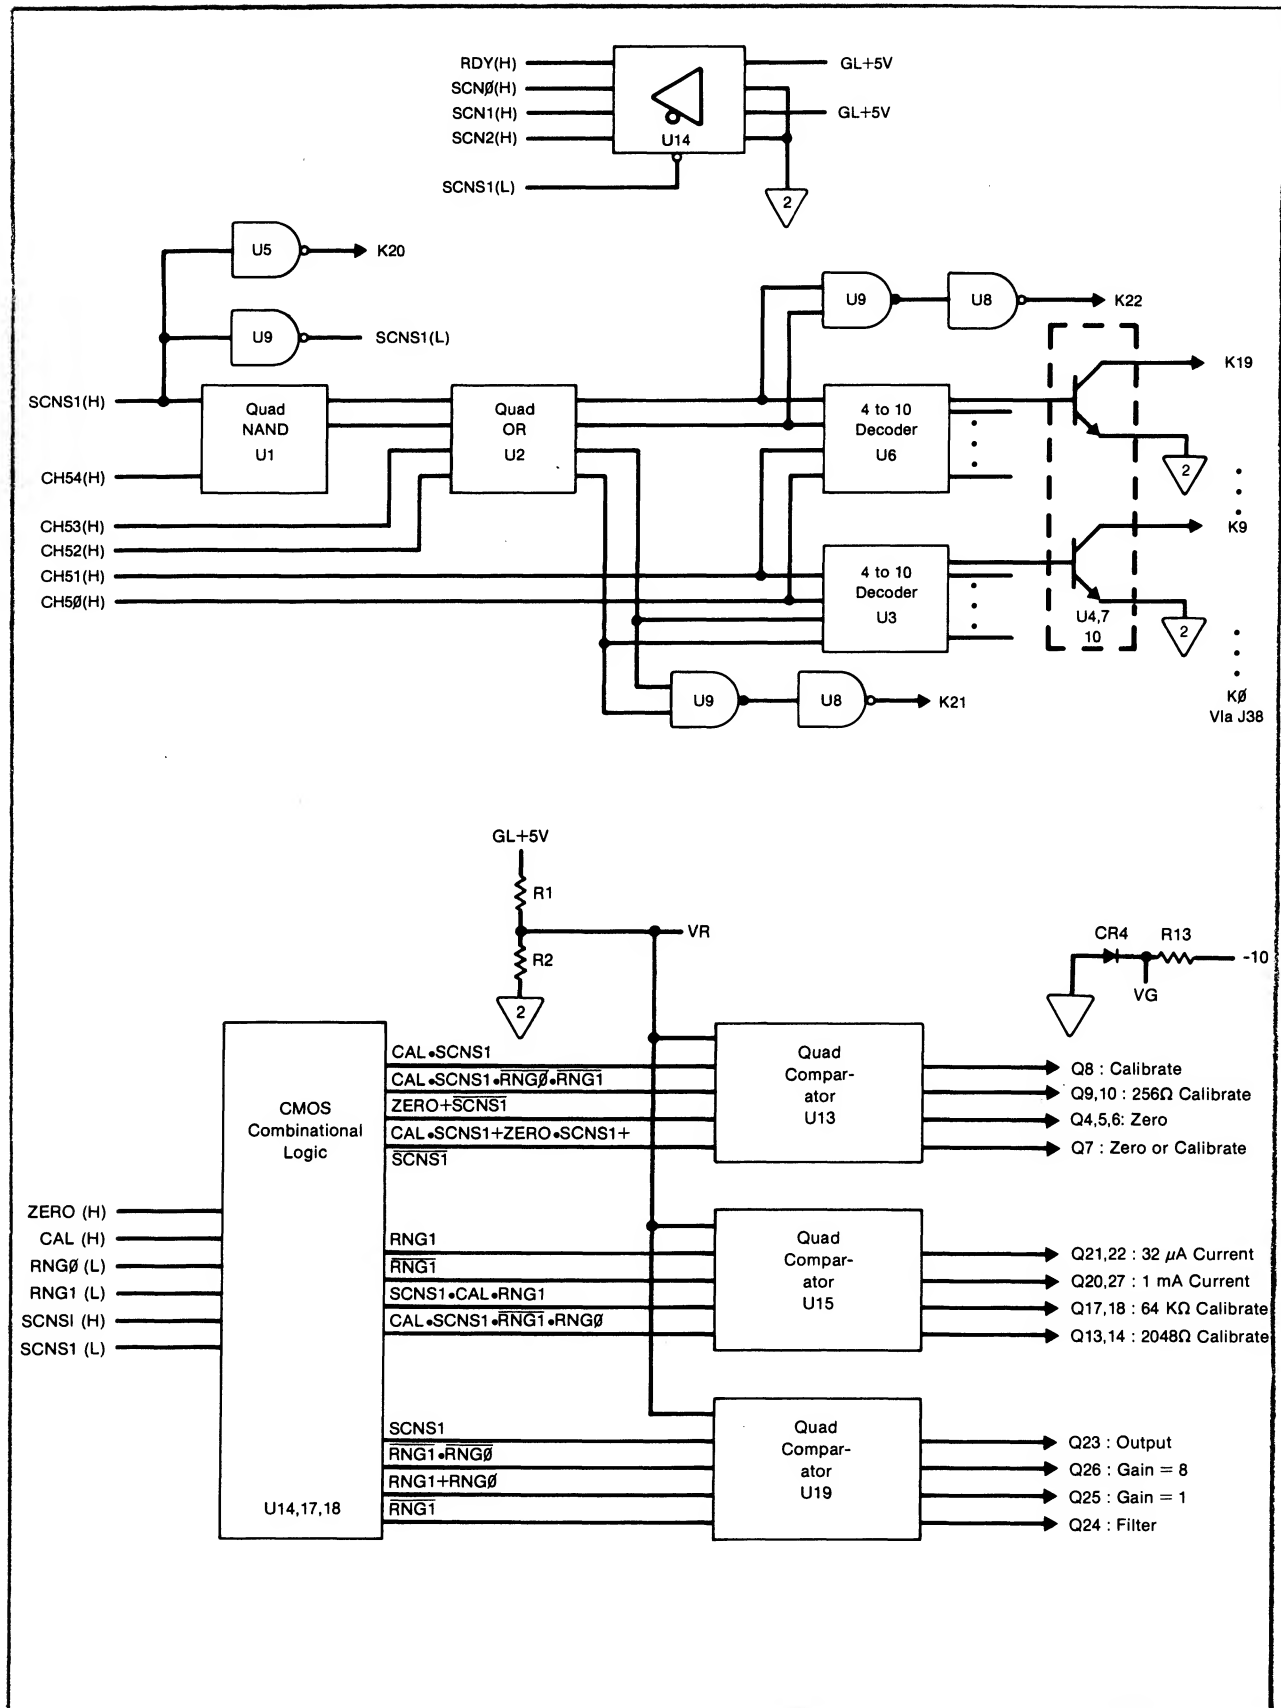

Figure 163-11. Control Circuitry
Figure 163-11 shows a simplified schematic of the scanner control circuitry. The first section of control circuitry asserts the RDY(H) and SCN[0:2](H) lines with U14 whenever SCNS1 is asserted by the A/D. This indicates to the A/D that the scanner is ready to make readings, and that it is an RTD/Resistance scanner.